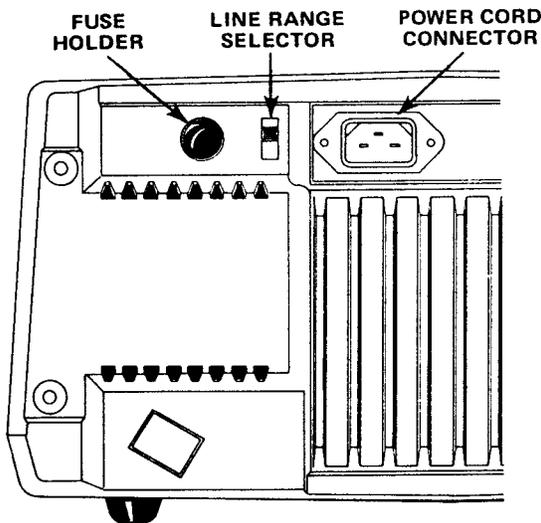

Figure 3-3. Power section of rear panel.
panel. Source selection is made with the LINE RANGE Selector on the rear panel (see Figure 3-3).
b. Using a small blade screwdriver or other small blunt item (similar to a dull pencil), slide the LINE RANGE Selector up or down to the desired position (see Figure 3-3).
d. Change the line fuse to the correct value indicated on the rear panel adjacent to the fuse holder (see Figure 3-3).